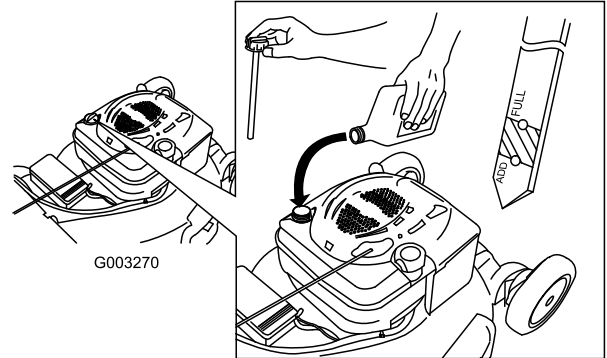

Figure 36
12. Remove the dipstick and read the oil level; refer to Figure 36.